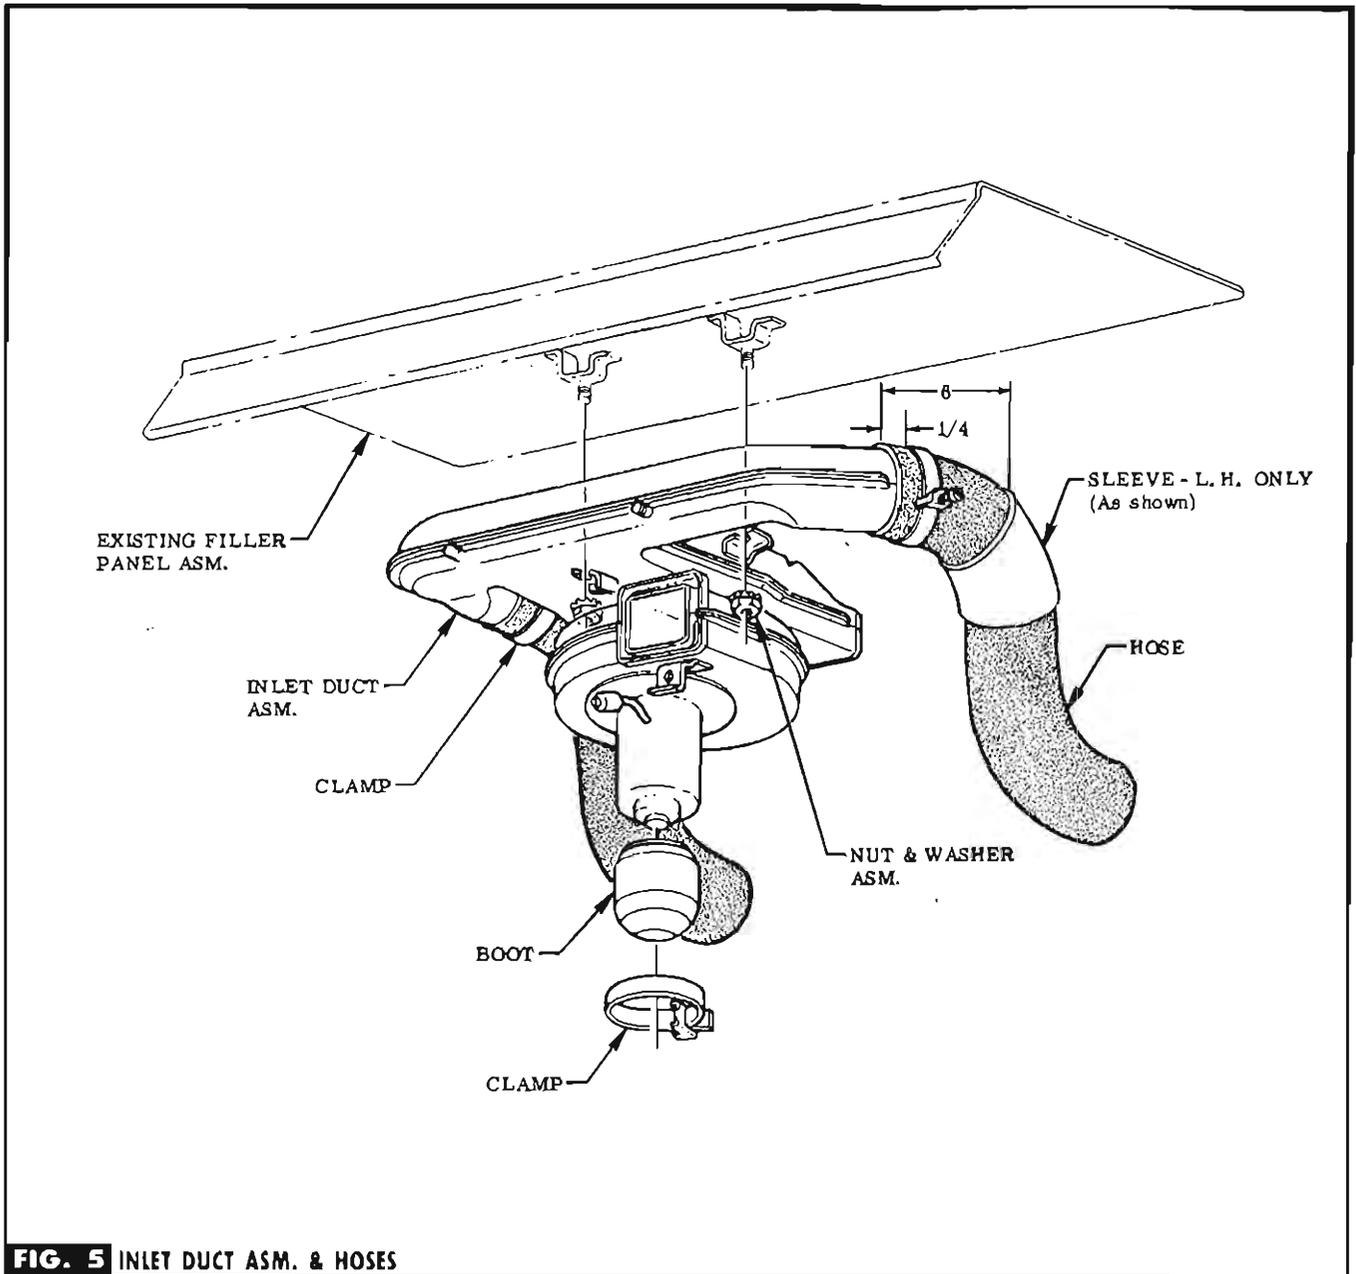

FIG. 5 INLET DUCT ASM. & HOSES
STEP 19 INSERT CLAMPS (IN BAG D) & SLEEVE (L. H. ONLY) ON HOSES & INSTALL ON INLET DUCT & TIGHTEN CLAMPS. SEE FIG. 5.
(IN BAG D). SEE FIG. 5.
STEP 21 LOOSELY INSTALL NUT ASM. (IN BAG C) TO FILLER PANEL. SLIP INLET DUCT ASM. ONTO STUDS & TIGHTEN. SEE FIG. 5.